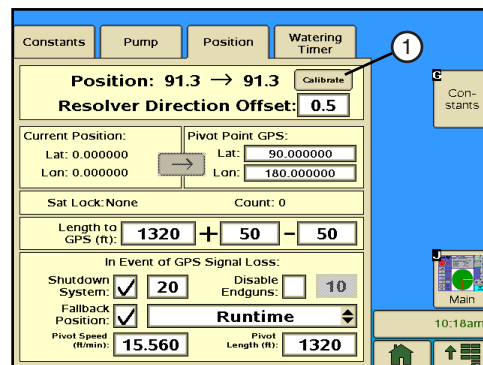

Figure 31-1 1. Calibrate Button
1. Push **Setup, Constants, Position** to display the Position settings. Refer to Figure 31-1.